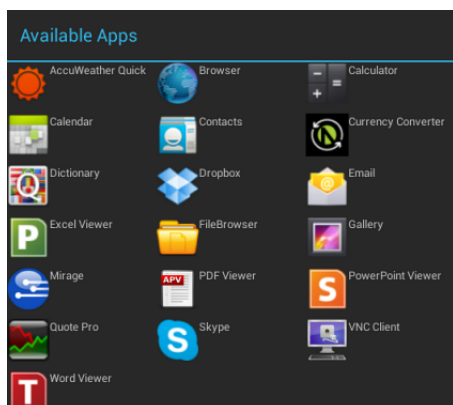

FIG. 118 Available Apps window,
- **Launch Applications:** Press to invoke the *Available Apps* window, which provides shortcuts to all Apps loaded on the panel (FIG. 118):.